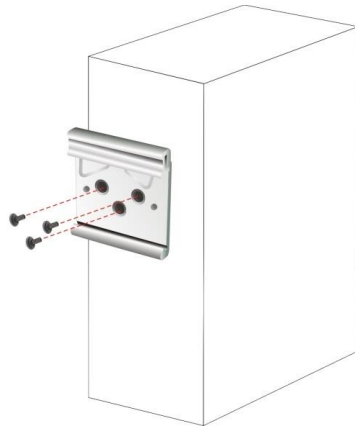

Figure 3-10: DIN Rail Mounting Bracket Installation
Step 1: Attach the supplied DIN rail mounting bracket to the rear panel of the embedded system. Secure the bracket to the embedded system with three retention screws (Figure 3-10)